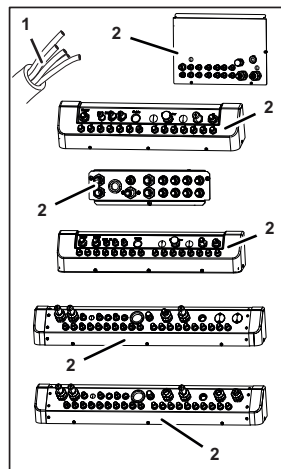

Figure 23
2. Connect the basic ingredient/beverage tubes to the push-in fittings or quick disconnect couplings on the relevant connection of the unit's relevant connecting plate (Figure 23/2).
4. Connect the python (Figure 23/1) to the push-in fittings or quick disconnect couplings on the relevant connection of the unit's relevant connecting plate (Figure 23/2).